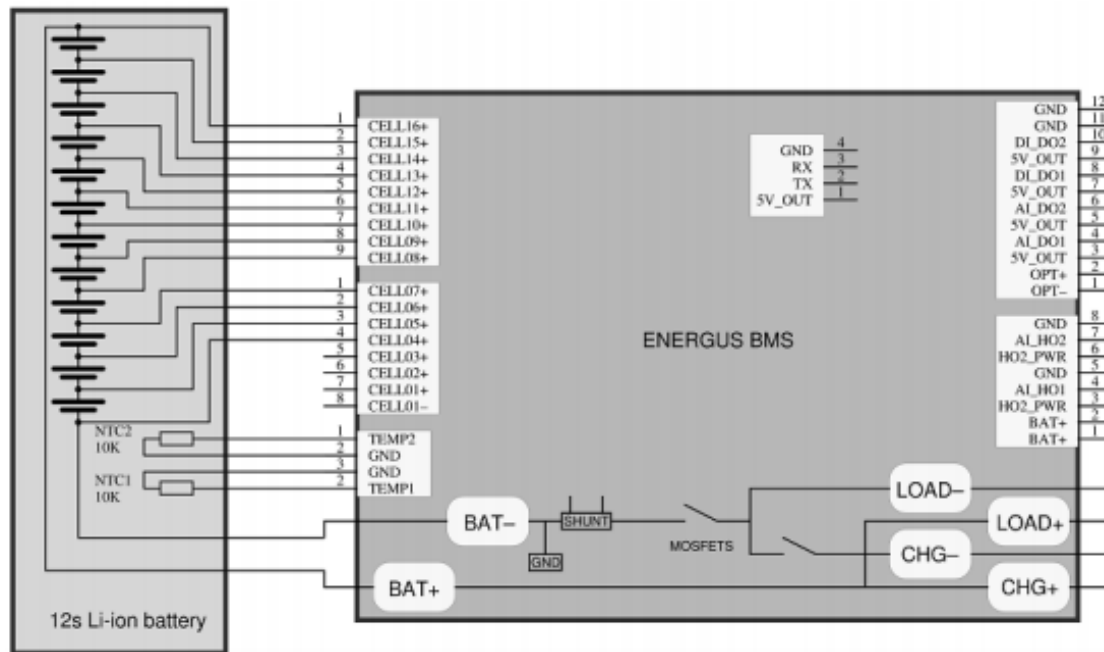

Figure 1. A typical connection diagram
1. Prepare cell connection: **connect the assembly(-ies) of balancing connector to cells first**. Double and triple-check voltages are in sequence on the connector(s). If there are less than 16 cells, lower contacts should be unused as shown in Figure 1.